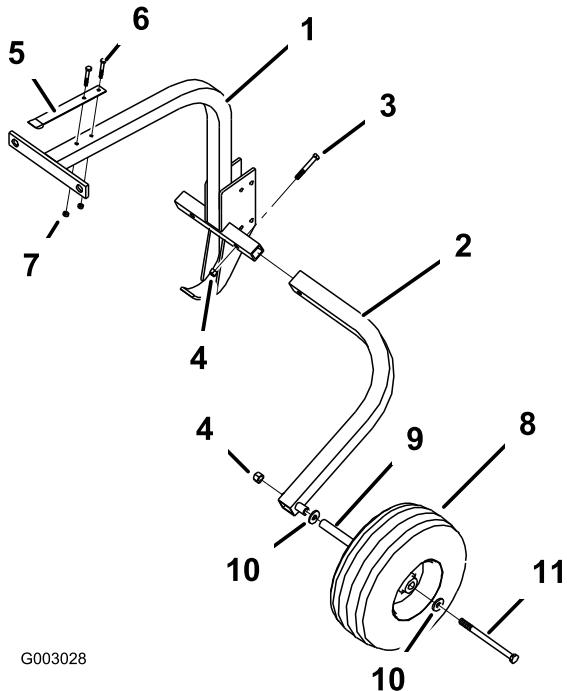

Figure 4
1. Install the wheel mounts to the main frame assembly as shown in Figure 4 using a bolt (1/2 x 2 inches) and lock nut (1/2 inch). Verify the
3. Install the spring latch to the top of the main frame assembly as shown Figure 4 in using 2 bolts (1/4 x 2 inches) and 2 lock nuts (1/4 inch).
4. Assemble the wheel and install it to the wheel mount as shown in Figure 4 using a wheel bearing tube, 2 washers, a bolt (1/2 x 9 inches) and lock nut (1/2 inch).